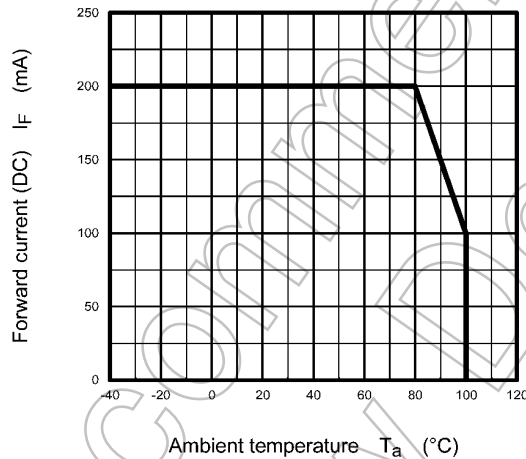

Fig. 4.1 $I_F - T_a$ (Note 1), (Note 2)
| Forward current (DC) See Fig. 4.1. | I_F | 200 | mA |